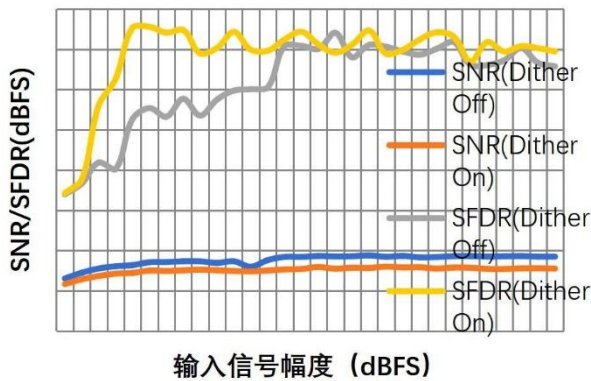
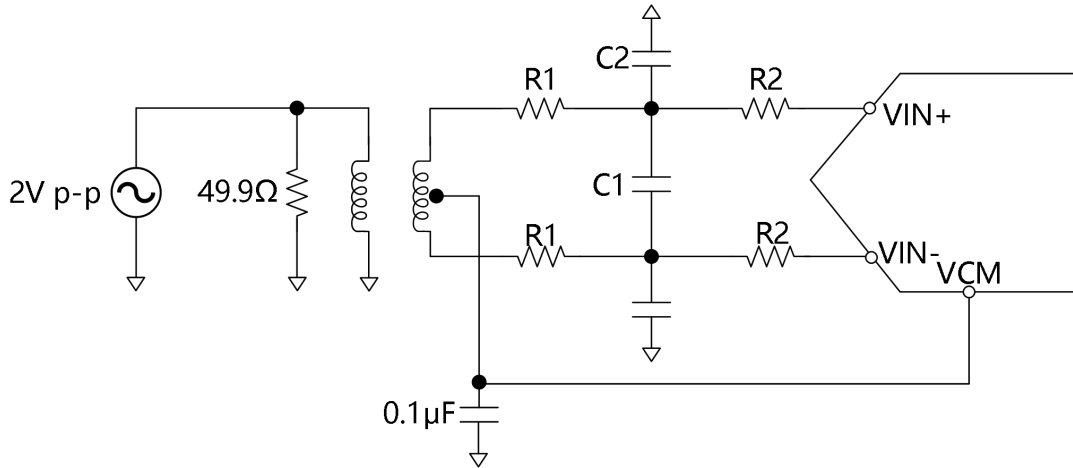

Figure 13 SNR/SFDR vs. Input Amplitude($f_{in}=30.1\text{MHz}$)
Figure 14. Differential Transformer-Coupled input Configuration
The ADC analog inputs are not internally dc biased. In accoupled applications, the user must provide this bias externally. An on-chip, common-mode voltage reference is available from either the V_{CM} pin or autonomous setting if $V_{CM} = 0.5 \times AVDD$ (or 0.9 V) are met. When the common-mode voltage of the analog input is set by the V_{CM} pin voltage (typically $0.5 \times AVDD$). The V_{CM} pin must be decoupled to ground by a $0.1\mu\text{F}$ capacitor (Figure 13, Figure 14)
1. The input configuration uses differential transformer coupling. An example is shown in Figure 13. To bias the analog input, the V_{CM} voltage can be connected to the center tap of the secondary winding of the transformer.
2. The input configuration uses differential double balun coupling (see Figure 14). In this configuration, the input is ac-coupled, and the CML is provided to each input through a $33\ \Omega$ resistor. These resistors compensate for losses in the input baluns to provide a $50\ \Omega$ impedance to the driver. Table 8 displays recommended values to set the RC network.